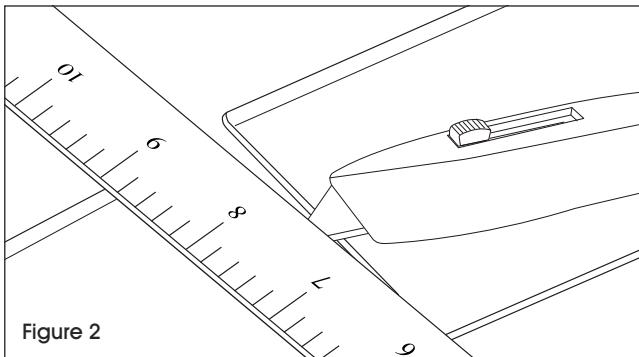

Figure 2
- Use a razor-edge utility knife to trim, cutting from the face to the back. (See Figure 2)